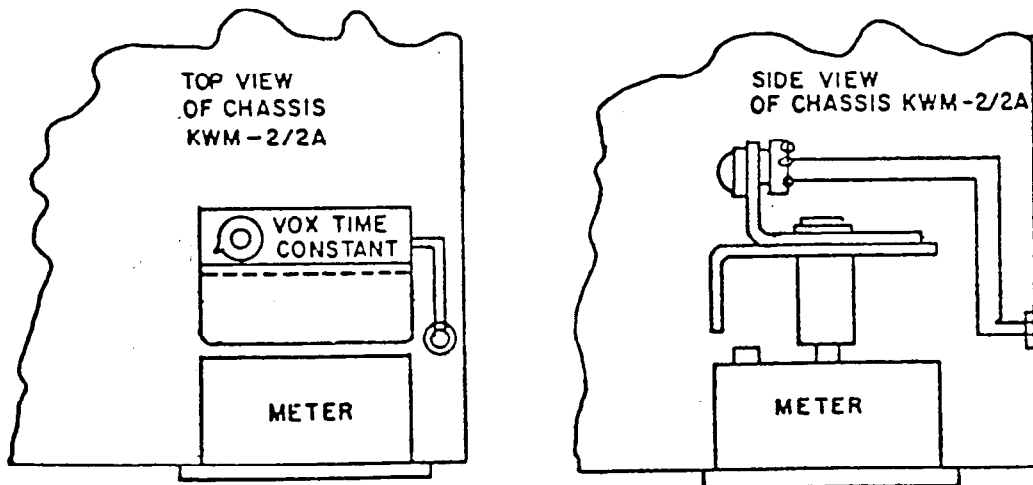

Figure 3. Installation of VOX Time Constant Control and Bracket.
8. Mount VOX TIME CONSTANT control bracket (546-7971-00) on the meter shield using hardware removed in step 7. See figure 3.
10. Solder the other wire to the counterclockwise terminal (as viewed from the shaft end) of the control. Refer to figure 3.